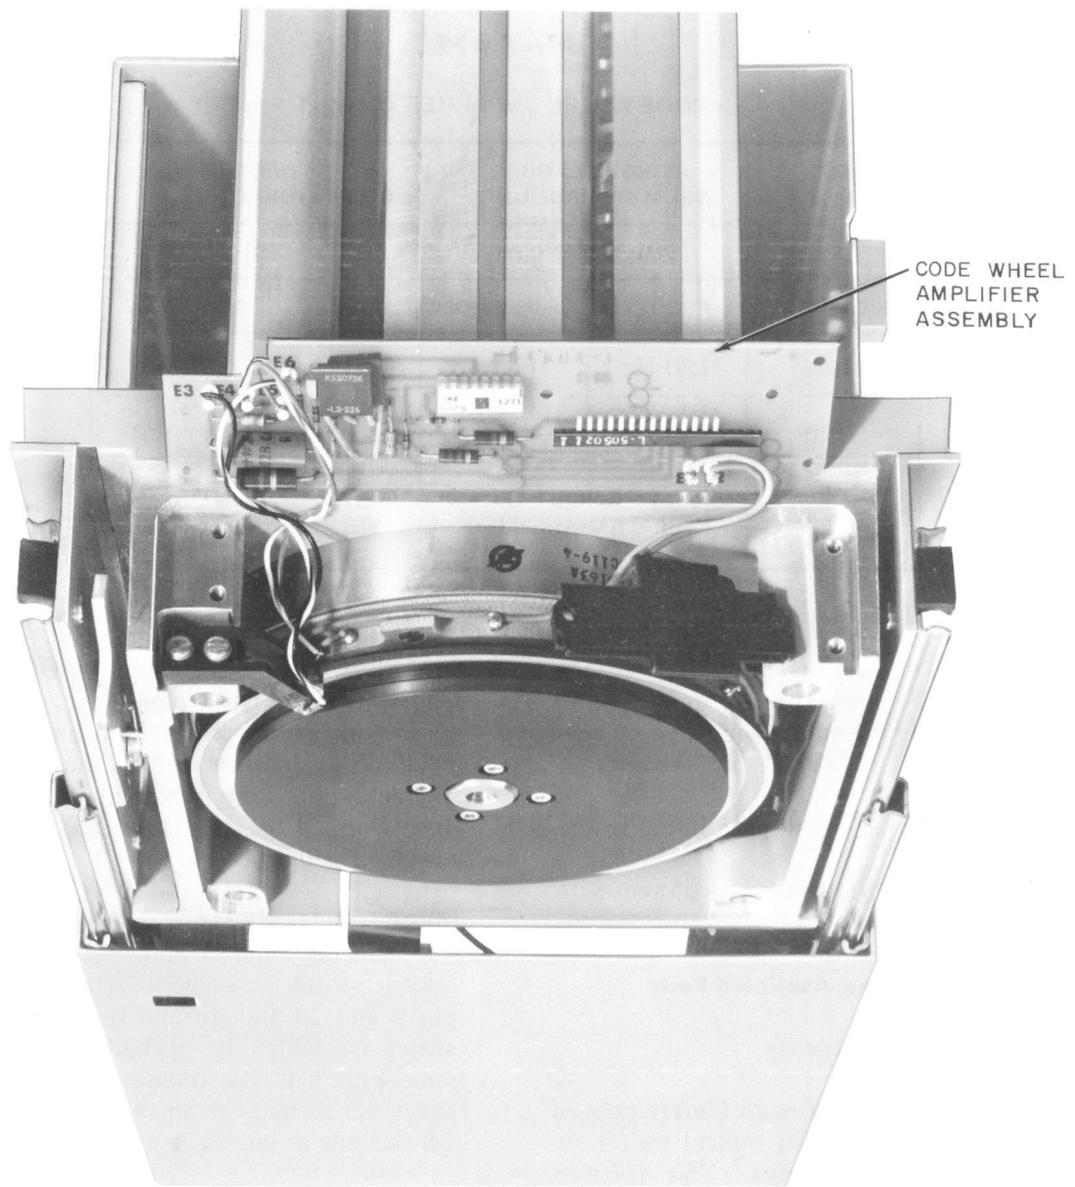

Fig. 8—Bottom View of Recorder Unit With Cover Removed and Code Wheel Amplifier Dismounted
- (3) Connect the oscilloscope input to terminal E6 (refer to Fig. 8 for location) on the circuit board and set to display waveform in question. Observe the indication on the oscilloscope.